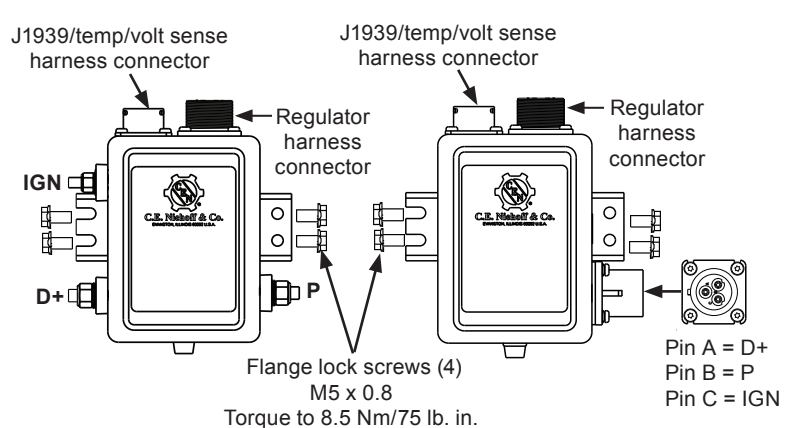

Figure 8: Smart Series Regulator Connections
6. If using smart regulator and a J1939/temperature-voltage sense harness, plug J1939 harness into J1939 receptacle on regulator. See Figure 8 for receptacle location. See installation instructions included with harness for more harness information. Harness sold separately².